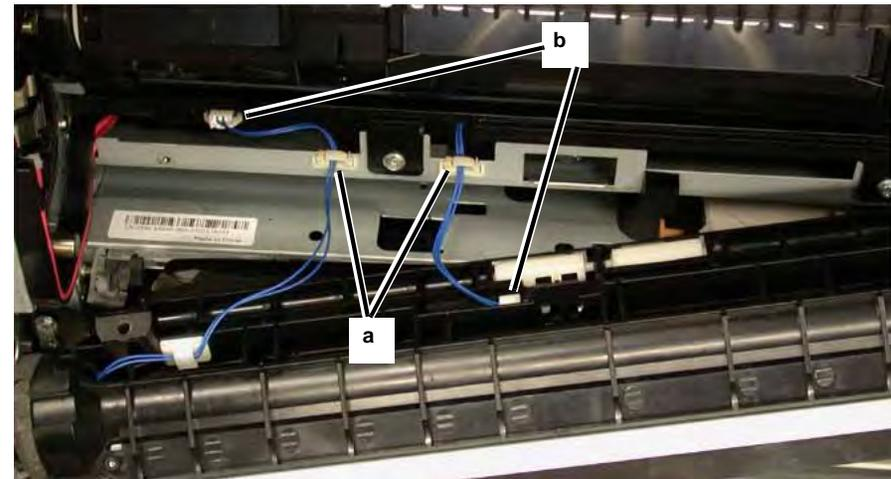

Figure 4 PJ's
6. Remove the Registration Transport (Figure 4).
- b. Disconnect the Registration Transport PJ's (2), and remove the transport.